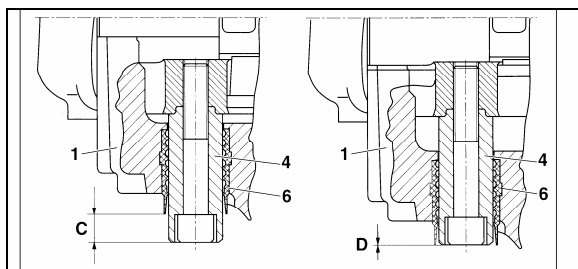

FIGURE 36: BRAKE PAD CHECK 12117
Brake pads have to be checked on a regular basis depending on the vehicle operation. The remaining thickness of the pads should never be less than 3/32 inch (2 mm). To check pad condition without removing the wheel, verify the position of guide bushing (6) relatively to guide sleeve (4) (Fig. 36). When guide sleeve is in alignment with guide bushing, brake pad thickness must be checked more precisely with wheel removed. When replacing the brake pads, all four pads on an axle have to be changed at the same time. There is no inner or outer pad, since all pads are the same. Worn pads should be replaced in the same position.